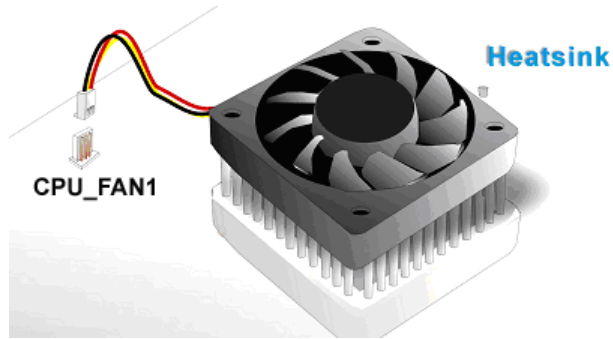

Figure 5-5: Connect the cooling fan cable
Step 13: Connect the fan cable. Connect the cooling kit fan cable to the fan connector on the motherboard. Carefully route the cable and avoid heat generating chips and fan blades. (See **Figure 5-5**)